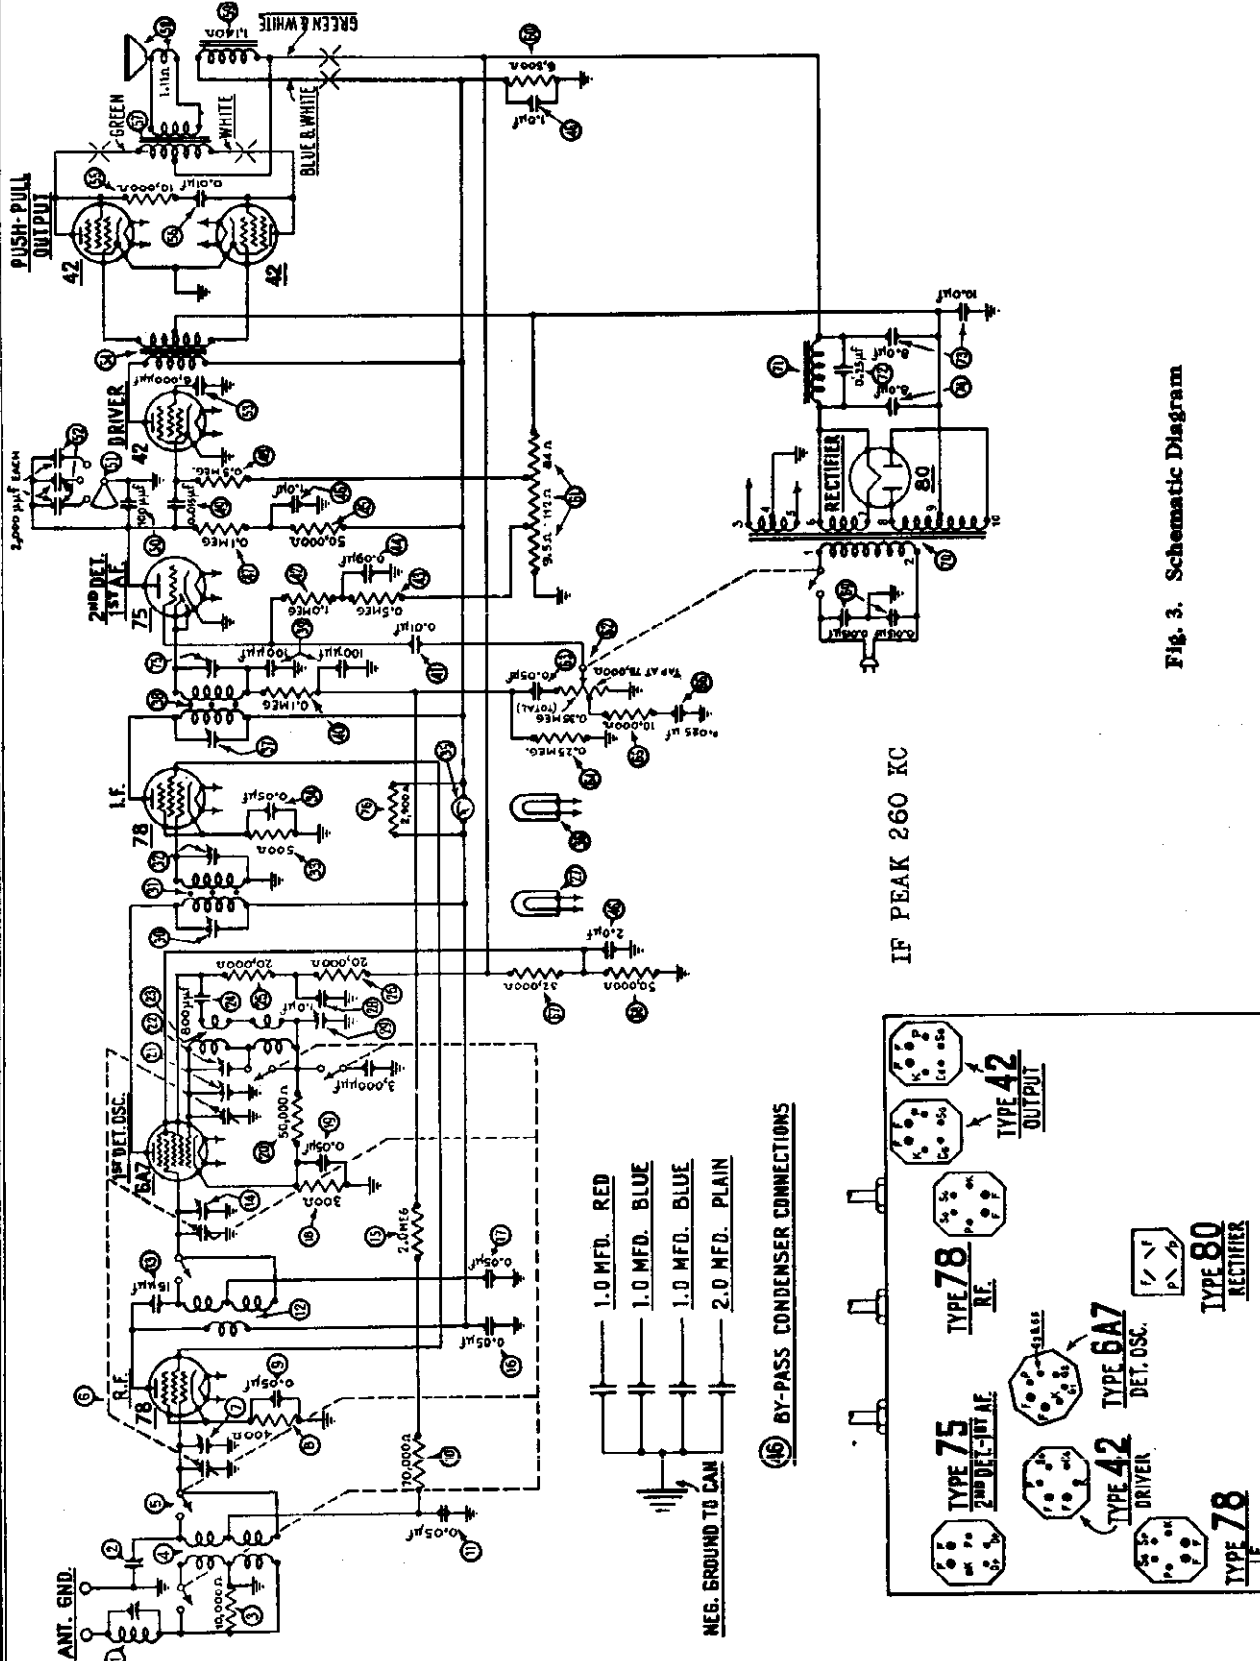

Fig. 3. Schematic Diagram
Set the wave switch on the Signal Generator at 260 K. C., and the dial of the receiver at 550. Turn on the set (volume full on), and the Signal Generator. Now adjust the 1st I. F. Primary and Secondary condensers (Nos. ② and ③ in Fig. 3) and the 2d I. F. primary and secondary condensers (④ and ⑤) to give maximum reading on the output meter. The I. F. primary condenser is adjusted by turning the screw on top of the I. F. transformer and the secondary is adjusted by turning the nut. The I. F. transformers are in the smaller metal "cans". The screw and nut are reached through the hole in top. If the needle on the output meter goes off the scale, turn down the "attenuator" on the Signal Generator until a lower reading is obtained.
WAVE TRAP—Remove antenna lead from grid cap of 6A7 tube and attach it to antenna post on set. Replace cap on 6A7 tube. With Signal Generator still operating at 260 K. C., adjust wave-trap condenser (① in Figs. 3 & 4) so as to get MINIMUM reading in output meter. This adjustment is made from underneath the chassis.
OSCILLATOR—LOW FREQUENCY—This is condenser ⑩ (see Figs. 3 and 4) located underneath chassis and accessible from underneath. Use the fibre wrench. Set signal generator switch at 600, tune in the signal at 600 on the dial and adjust condenser to maximum.